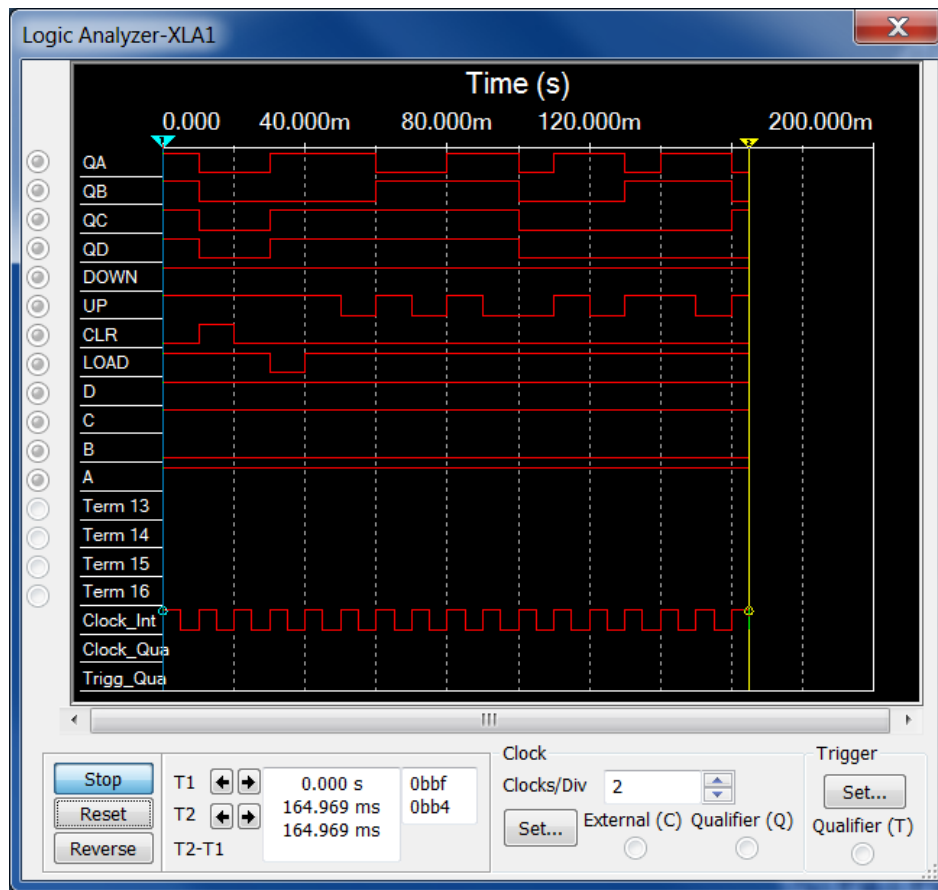

Figure 3. Test Circuit Output (Logic Analyzer Display)
- (1) When the CLR input is 1, the output should reset to 0.
- (2) When the CLR input is set back to 0, the circuit should count up for each 0-to-1 transition on the UP input, and count down for each 0-to-1 transition on the DOWN input. By changing the inputs in the proper order, the timing diagram shown in Figure 3 should be generated.
- (3) When your circuit is working properly, use the text tool to put your name and the date on the diagram. Then save your circuit on your H: drive and/or your personal USB drive.
- (4) Print your circuit and the timing diagram to include in your lab report. You may need to use screen capture to get the hardcopy.